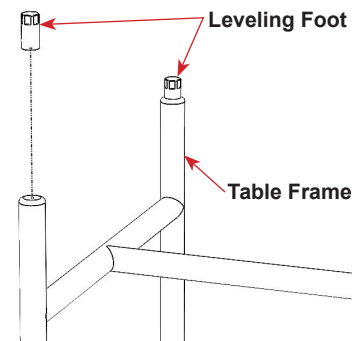

FIGURE 2.2 - Leveling Foot
STEP 2: To remove or install the leveling feet; turn the threaded foot. See Figure 2.2